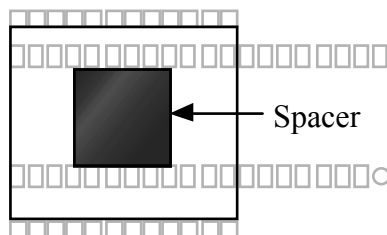

Figure 5-7
- Locate the black neoprene LCD spacer (MISC. bag), which is 1/2 x 1/2 square and 3/16" thick (12 x 12 x 5 mm). Remove the adhesive backing from one side and position the spacer as shown in Figure 5-7. It must be mounted flat against the PC board, centered between the two rows of pins on U1's socket.